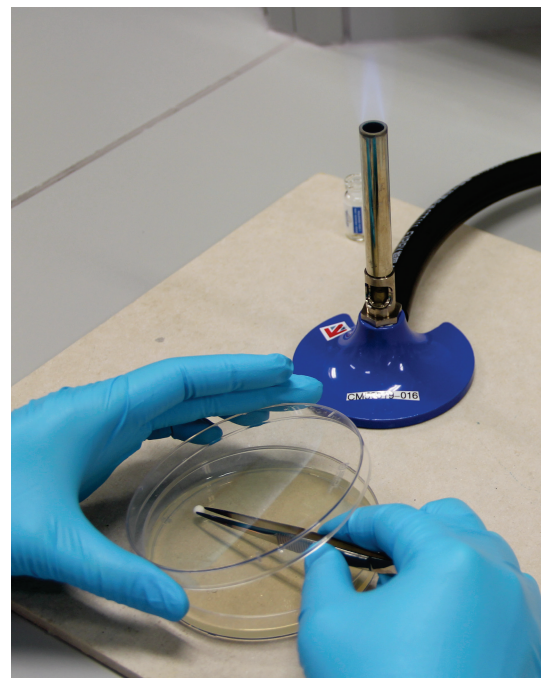

Fig. 3
5. Using a pair of sterile forceps, transfer 1 single bead of BactoBead™ (competent *E. coli*) from the container vial to the upper-left portion of the LB agar plate (Fig. 3).